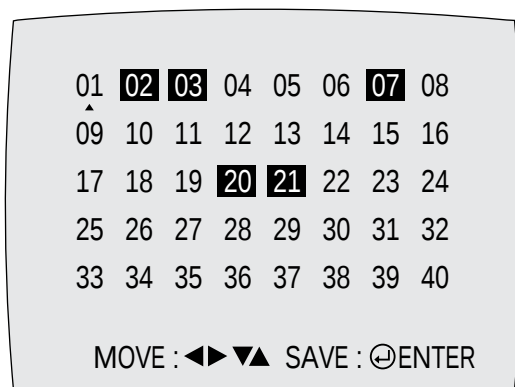

Fig. 6-3
- 2) Press the "1, 4" button on the remote control. The option setting appears. (See Fig. 6-3)